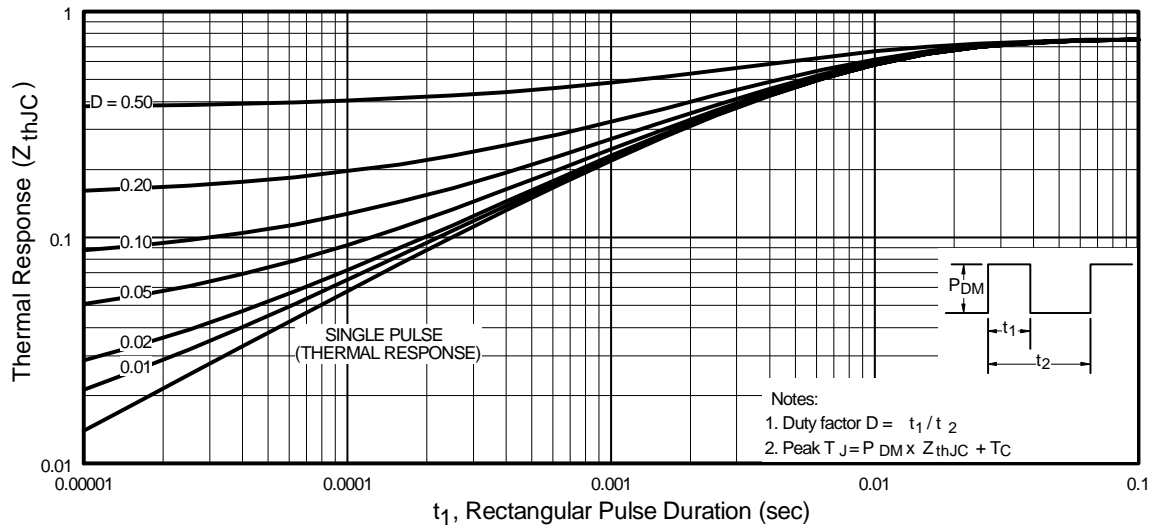

Fig 11. Maximum Effective Transient Thermal Impedance, Junction-to-Case
- ① Repetitive rating; pulse width limited by max. junction temperature. (See fig. 11)
- ② Starting T_J = 25°C, L = 260μH